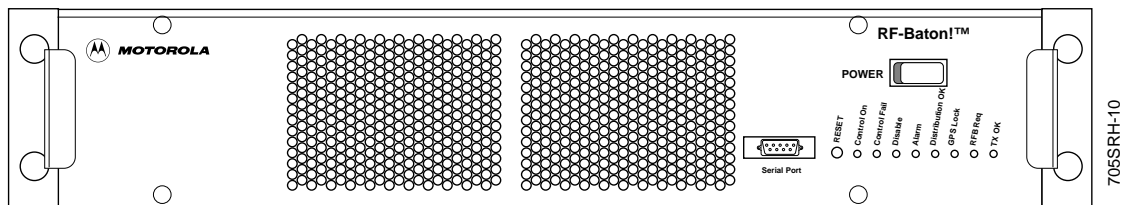

Figure 2-3: RF-Baton! Transmitter Controller (Front View)
The RF-B! transmitter controller chassis is a 19-in. (48.26 cm) rack mount module that is two Electronics Industries Association (EIA) rack units (RU) high (3.5 in. or 8.89 cm) (see Figure 2-3).